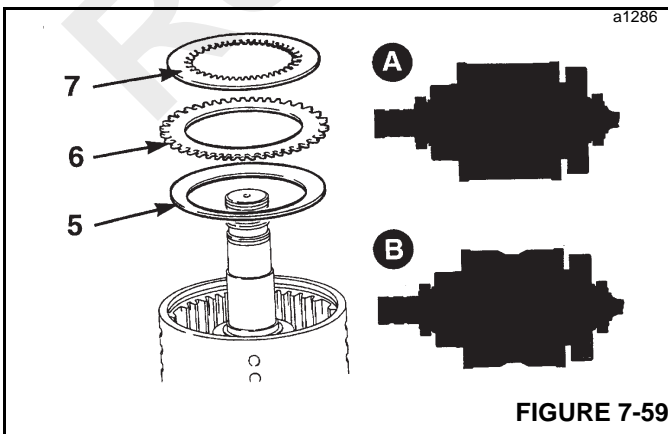

FIGURE 7-59
5. Install the disc spring assembly (5, Figure 7-59). Install the assembly so that the outer diameter curves away from the clutch piston.
6. First, install one counter plate (6).
7. Install one friction plate (7) followed by one counter plate (6).
8. Continue installing alternate friction and counter plates. Finish with a friction plate (7).
**NOTE:** In earlier clutch housings **A**, pressure plates are installed (not shown). Later clutch housings **B** are installed with counter plates (6) as shown.